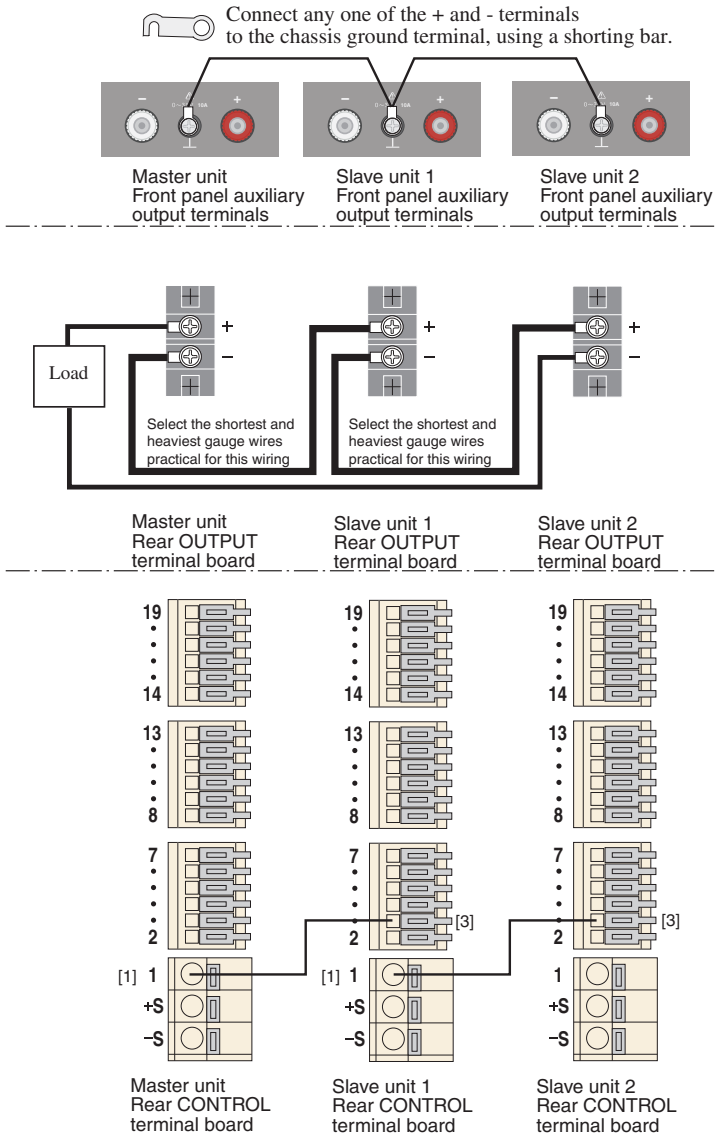
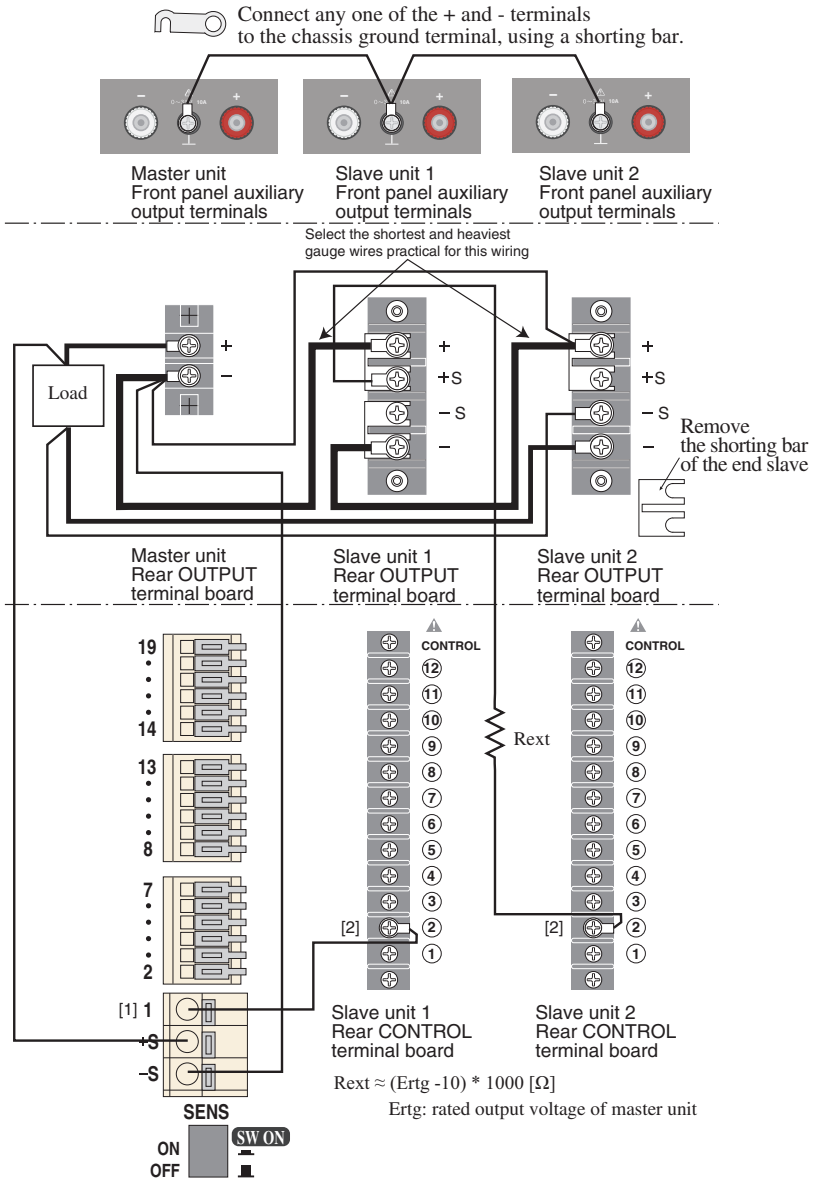

Fig.4-25 Connection for master-slave-control series operation (When the PAN-A and PAN series are used together)
Fig.4-26 Connection for master-slave-control series operation using sensing (When the PAN-A and PAN series are used together)
To combine the PAN-A and PAN series, see Fig.4-25. When remote sensing must be performed, see Fig.4-26.
- When carrying out master-slave-control series operation with the PAN16-50A and PAN16-50 combined, refer to Fig.4-25 for connection of the CONTROL terminal board.